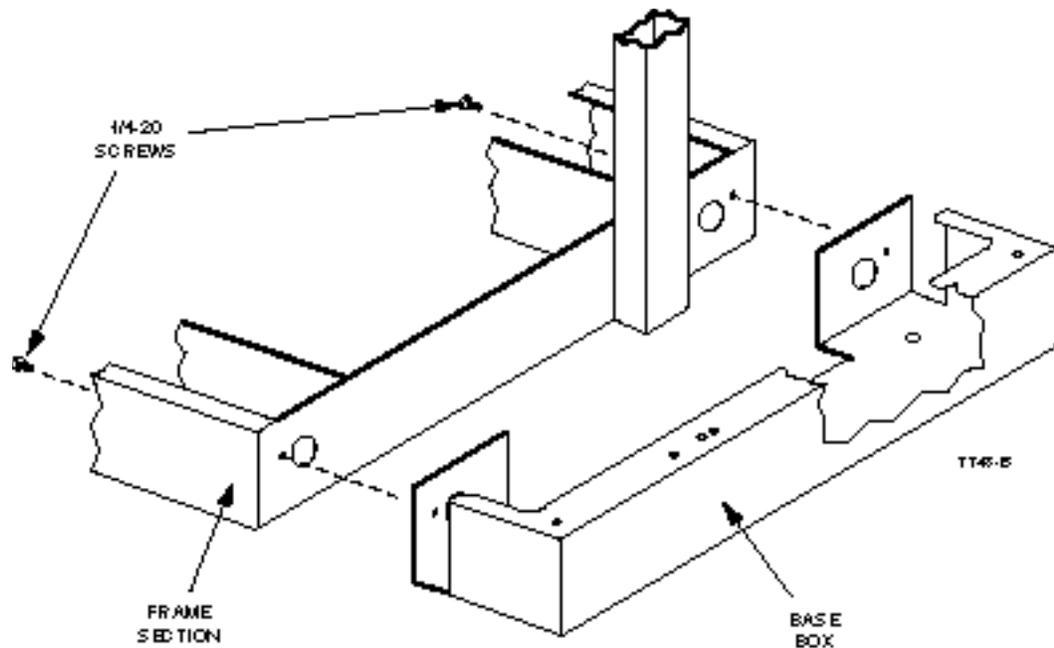

Figure 5. Attaching the Frame Section to the Base Box
1. If necessary, remove the attaching screws and the front and rear kick panels (dust covers) of the frame section to obtain access to the two screw holes in the side of the frame section. Attach the Base Box to the Rack with two 1/4-20 screws and flat washers. (See Figure 5.) Bolts are provided; however, it is usually not necessary to bolt the Base Box to the floor.